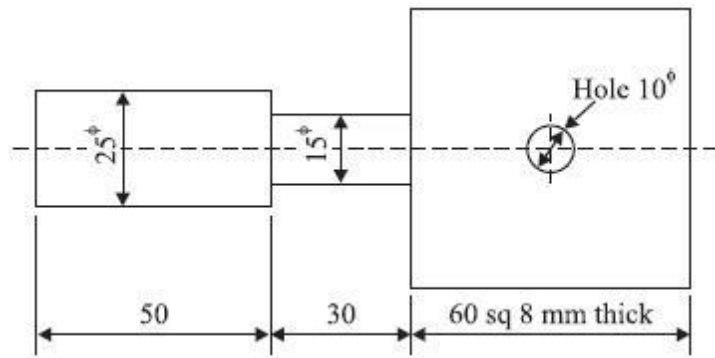

Fig. 5.29. Lever (all dimensions in mm).
- 14 (a) What are the various losses considered while calculating the material cost for a forged component? Describe the various constituents of cost of a forged component. (8) BT1
(b) Estimate the net weight and gross weight for the manufacture of 500 levers shown in Fig. 5.29. The material weighs 7.8 gms/cc and the total losses account for 25 percent of net weight of the lever. Also calculate: (8) BT2